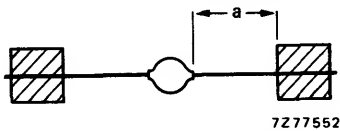

Fig. 2 Mounting method 1.
1. Thermal resistance from junction to tie-point at a lead length  $a = 10$  mm; Fig. 2